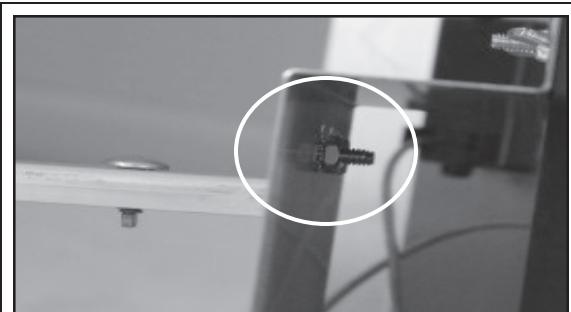

Fig. 8
2. Secure the LP tank fastener from the inside of the heat shield with two 10-24 Kef nuts as shown in (Fig. 8) and tighten with wrench.